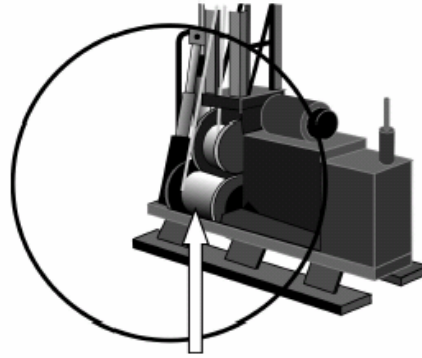

Figure 5. DANGER ZONE –
- Keep clear of unguarded machine parts such as winch drums (see Figure 5).